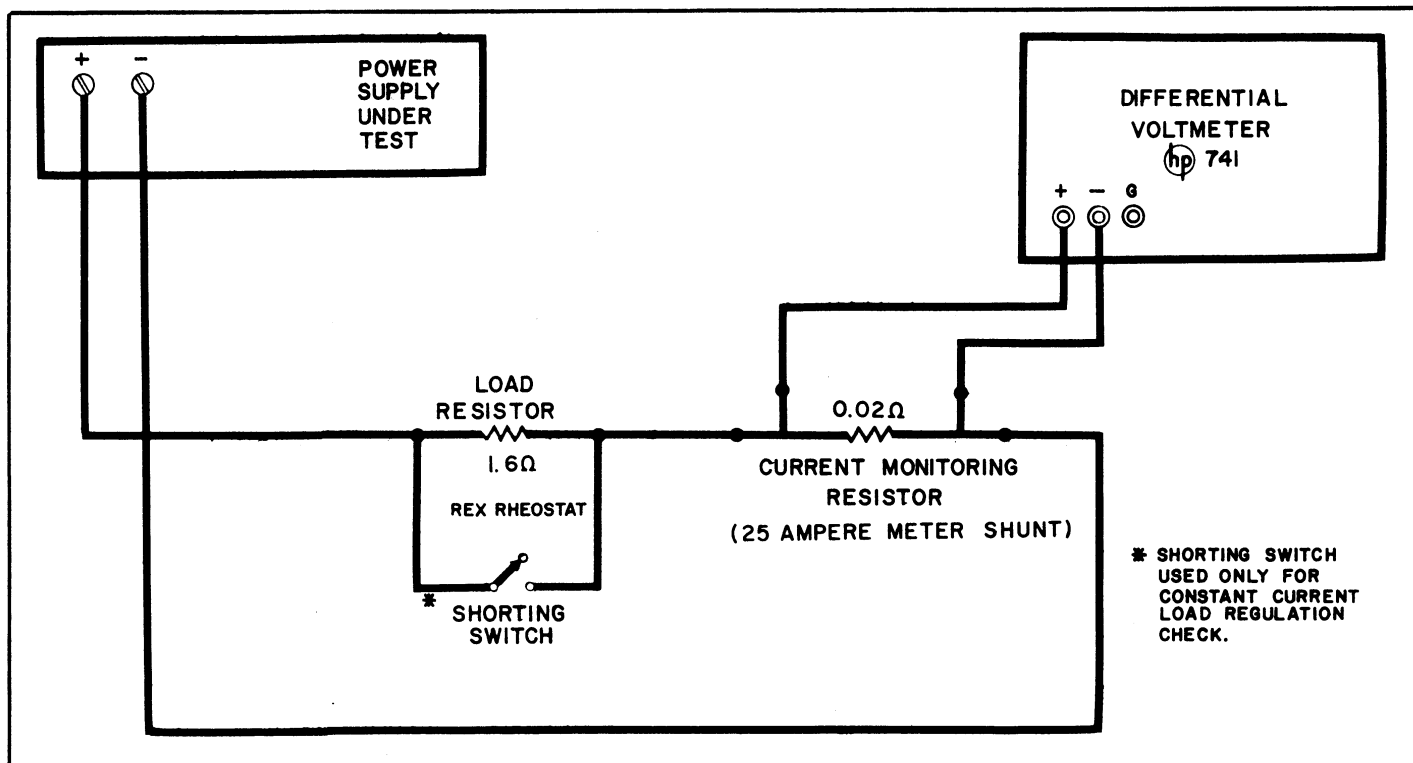

Figure 5-3. Constant Current, Test Setup
a. Connect test setup shown in Figure 5-3.
- a. Connect test setup shown in Figure 5-3.